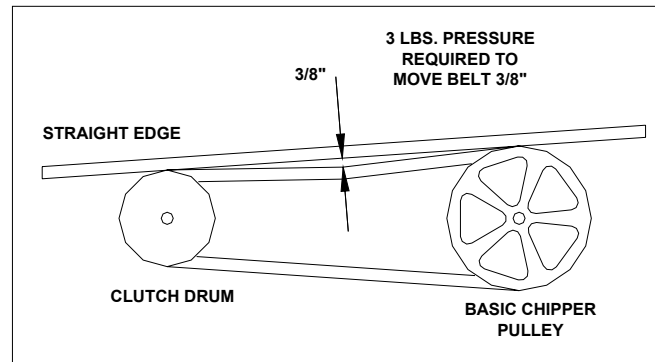

Figure 1
5. Care must be exercised when sharpening the knife to maintain the correct bevel and a straight edge. Refer to sharpening directions. When you install a knife, the clearance between the knife and wear plate must be checked and set. This clearance or gap should be set to 1/16” (see figure 1).
The belt on your chipper should deflect 3/8" under three pounds of pressure as shown in figure 1 below. If it doesn't, adjust per the following directions.
- Tighten or loosen the nut on the belt tensioner until you have the correct tension as shown in figure 1.